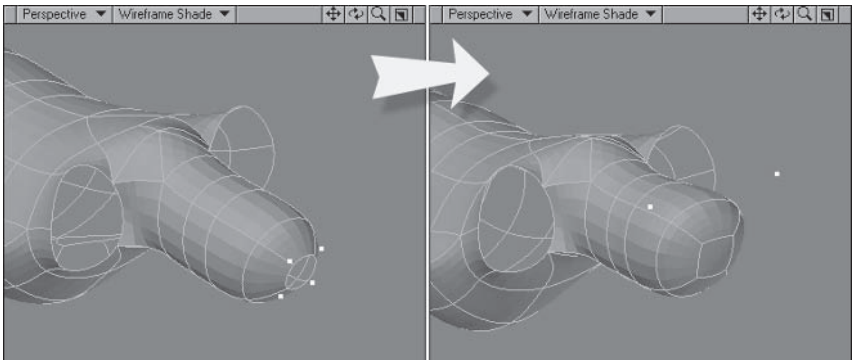

Figure 5.4-39. Capping the finger.
- 6. **Make Polygon** to cap off the end, then **Move** the points shown in Figure 5.4-39 up a little and, from the Top view, **Stretch** vertically about **135%**.